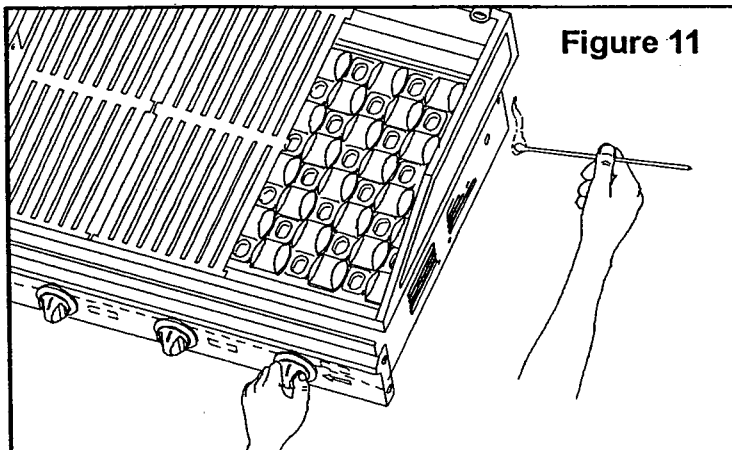

Figure 11
**NOTE:** If Grill does not light with the Igniter, use a long match as shown in Figure 11